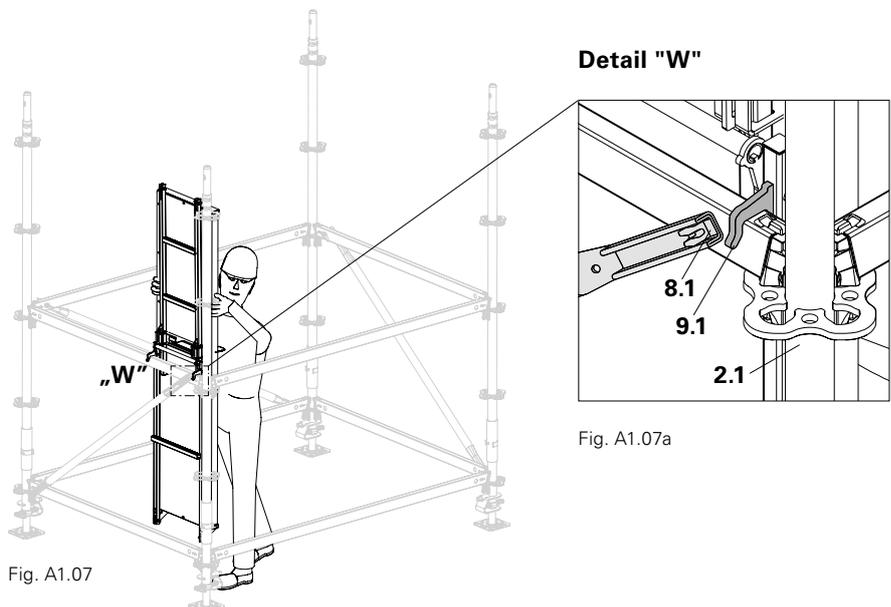
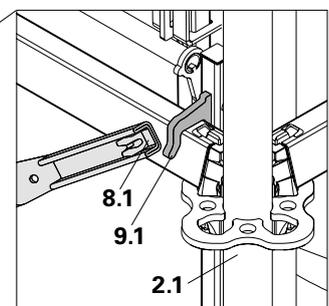

Fig. A1.07
Fig. A1.07a
- 1.1. Insert one deck (9) into the tower from the open side. (A1.06)
- 2.2. Suspend deck with both hooks (9.1) of the red side over the beam of the Ledger. (Fig. A1.07) Ensure that the outer hooks (9.1) are mounted between the Standard (2.1) and the end of the Ledger Brace (8.1). (Fig. A1.07a)